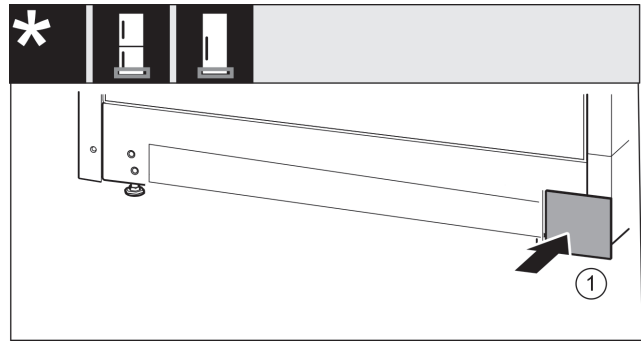

Fig. 16
- ▶ Put the cover back on the other side. Fig. 16 (1)